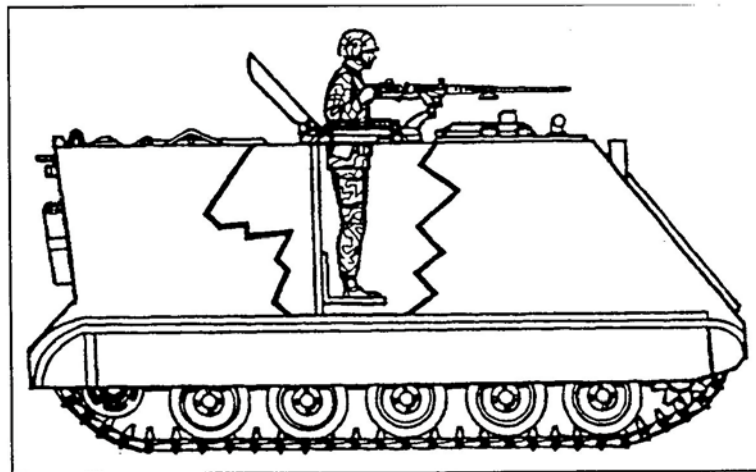

Figure 4. Standing position (cupola mount)
d. Standing position for cupola-mounted gun (Figure 4).